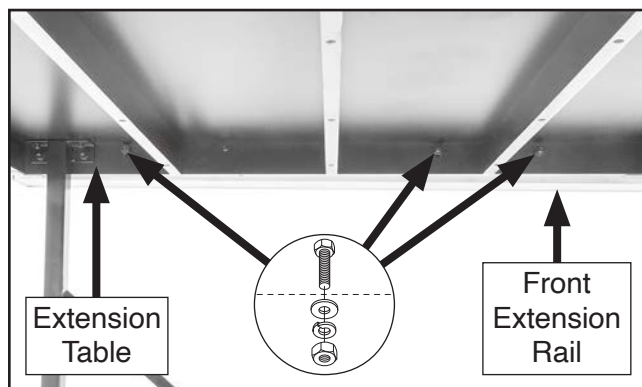

Figure 12. Extension table mounted to front extension rail.
16. Mount extension table to front extension rail with (3) 8mm flat washers, 8mm lock washers, and M8-1.25 hex nuts, as shown in **Figure 12**. Hand-tighten fasteners for now.